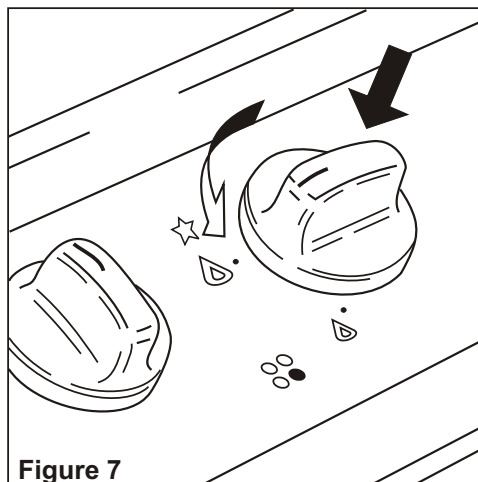

Figure 7
To light one of the gas burners, push in and turn the relative knob to the maximum aperture position (large flame symbol) and hold the knob in until the flame has been lit (figure 7).
- Turn the knob in an anti-clockwise direction up to the maximum aperture, push in and hold the knob. In models with the gas lighter incorporated in the knob, this will light the gas (figure 7). If there is no mains electrical supply, bring a lighted match close to the burner.